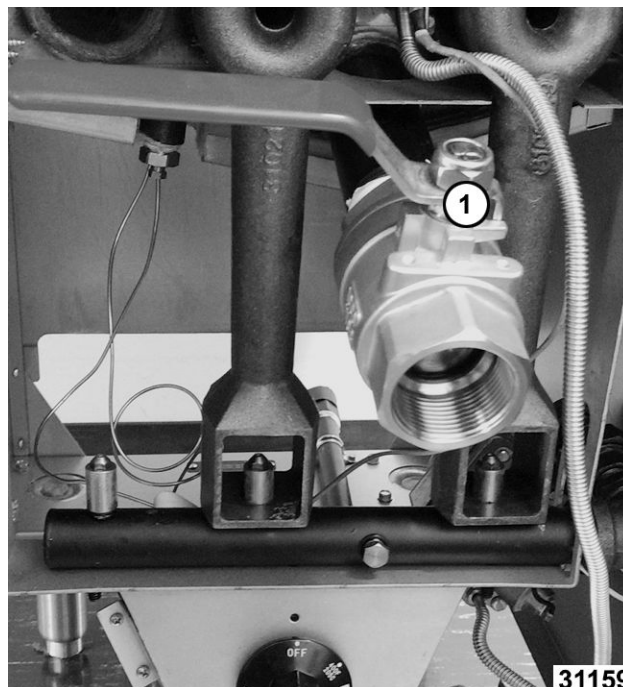

Fig. 33
3. Place container under drain valve (1, Fig. 33) to drain shortening into.